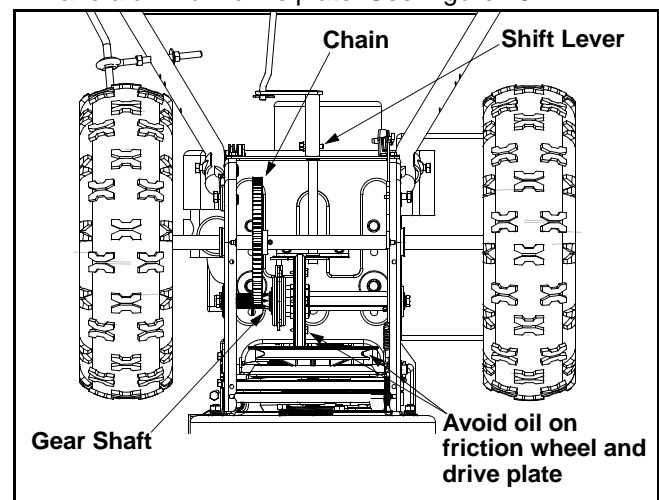

Figure 18
- Remove rear cover. Oil any chains, sprockets, gears, bearings, shafts, and shifting mechanism at least once a season. Use engine oil or a spray lubricant. Avoid getting oil on rubber friction wheel and aluminum drive plate. See Figure 18.